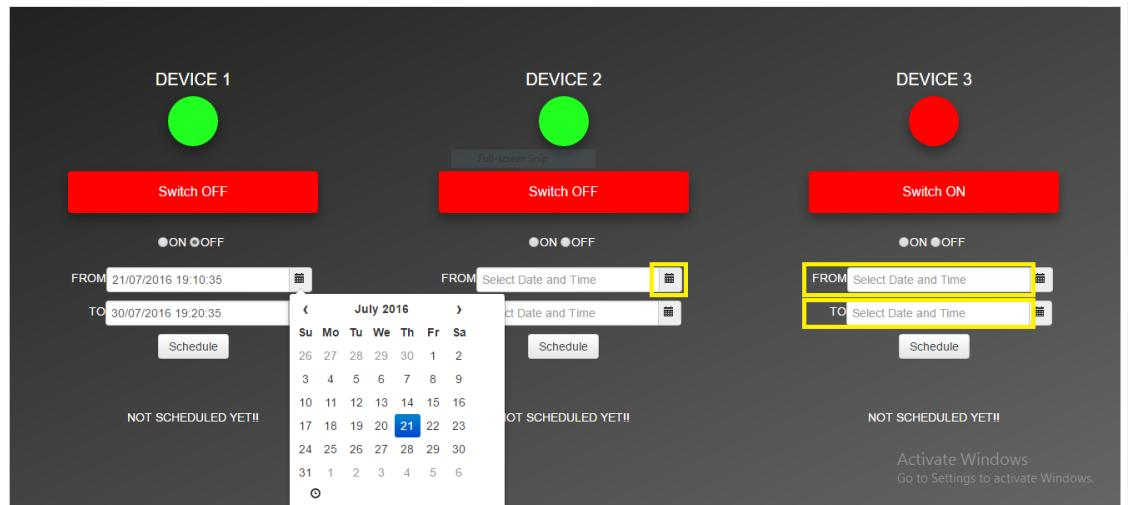

Figure 1.31: Control page
- Just below every switch button there is a scheduler which can schedule ON/OFF. Scheduler is shown in Figure 1.31
- Then the user have to fill the two input fields namely *FROM* and *TO* as per requirement.See Figure 1.31
- Scheduled Time-interval and Type will be notified as text.See Figure 1.31